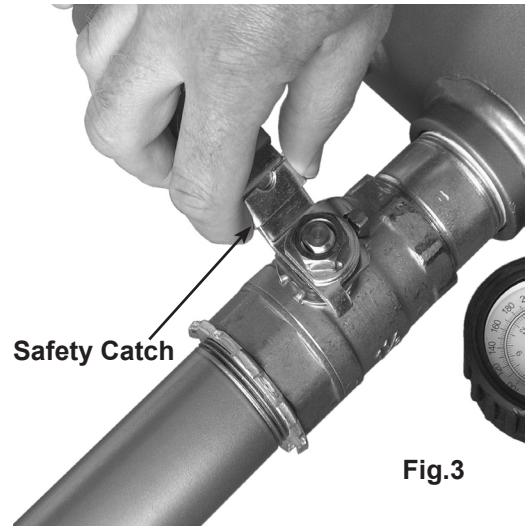

Fig.3
4.2.4. Holding the bead seater securely with one hand and keeping it steady against the wheel, lift up the safety catch (Fig.3) and quickly open the release valve with the other hand, if the bead does not seat, recharge the tank to a higher pressure and repeat the procedure.
4.3.5 Holding the bead seater securely with one hand and keeping it steady against the wheel, lift up the safety catch (Fig.3) and quickly open the release valve with the other hand, if the bead does not seat, recharge the tank to a higher pressure and repeat the procedure.